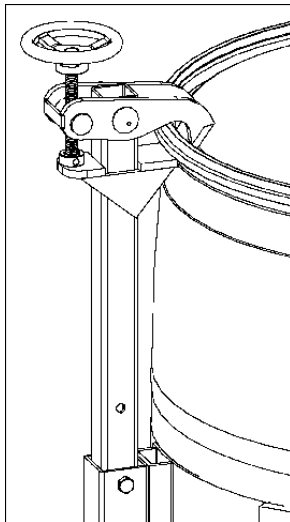
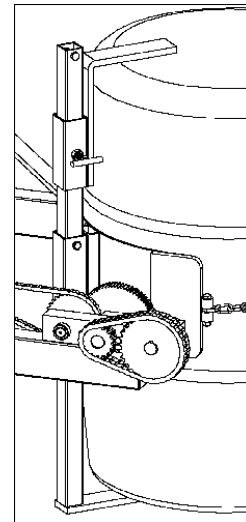

Figure 2.1
Figure 2.2
- A 55-gallon plastic drum can be handled with either the Adjustable Bracket (Part # 1465-P) or the Top Rim Clamp (Part # 3540-P). Use the Top Rim Clamp with a plastic drum that has a suitable top rim (see figure 2.1). Use the Adjustable Bracket for a drum with or without a top rim (see figure 2.2).